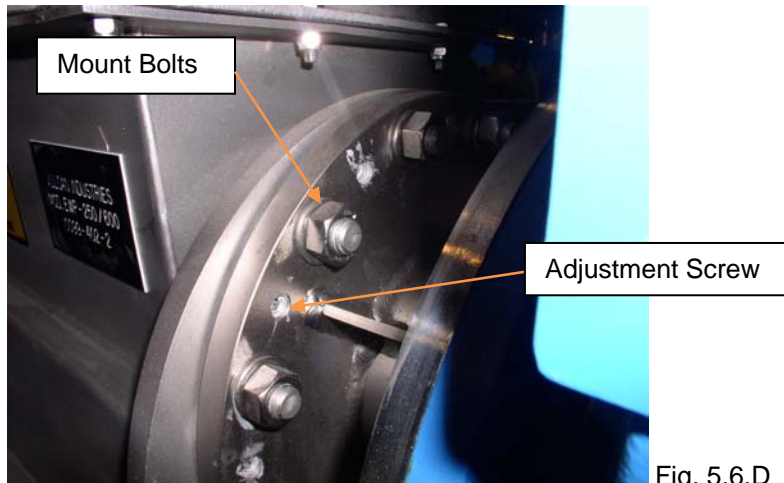

Fig. 5.6.D
- If the spiral does not run freely, the axial alignment of the spiral must be corrected. Loosen the mounting bolts on the thrust bearing unit and then turn the adjusting screws as necessary to align the spiral. (See Figure 5.6.D.)